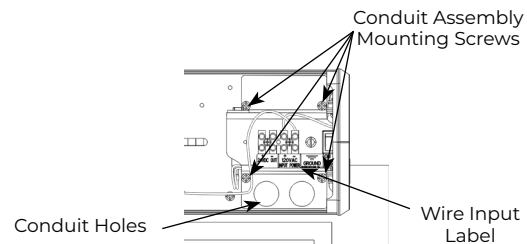

Figure 12
1. Orient conduit assembly so two (2) conduit holes are at bottom and text on wire input label is legible. (Figure 12)
2. Secure assembly to backplate using four (4) #8-32 x 5/16" Phillips head screws. (Figure 12)